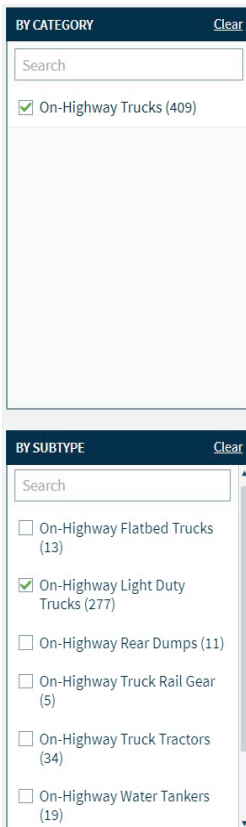

Figure 4-16: EquipmentWatch By Category & By Subtype Search
- ii. Check the box for the type of equipment. This will open a By Subtype list. Check the box for the type of equipment (Figure 4-16).